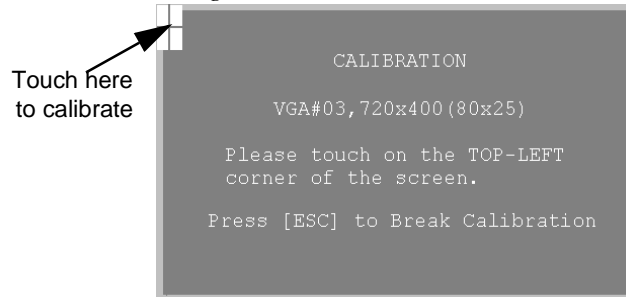

Figure 4-6 Calibration Intersections
6. Press the intersection displayed in the upper left corner of the screen. See *Figure 4-6*.